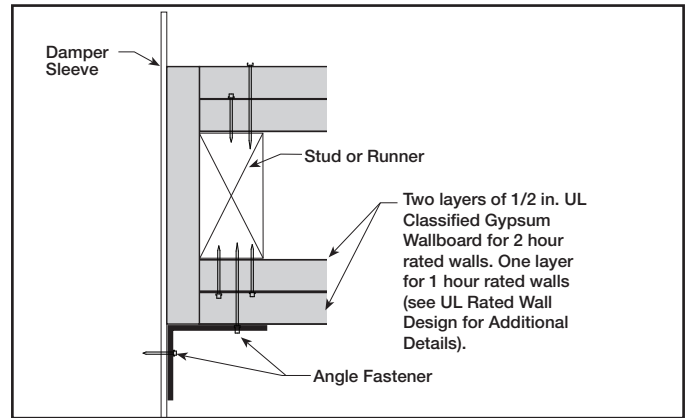

**Figure 9:** 2 sided angle installation method
**Two sided Angle Method:** For two sided angle installations the retaining angles shall not be attached to the wall/floor (see **Figure 9**).